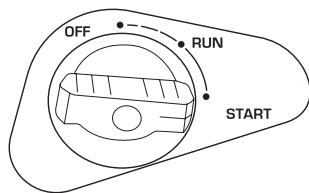

Fig. 8
4. Turn the air choke control knob to the “OFF” position (Fig. 8), for dual fuel models - move the fuel switch to the OFF position/ close LPG supply valve.